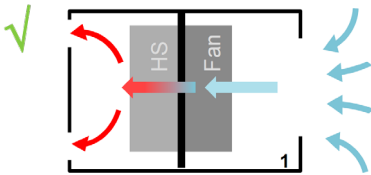

Figure 16. Design guidelines for active cooling solutions
- The luminaire should be equipped with an inlet for cool air and an outlet for hot air (Figure 16).